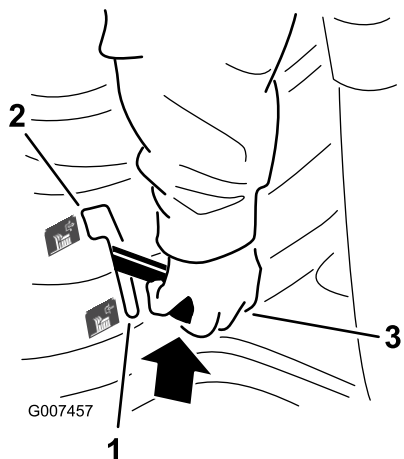

Figure 9
- Shift the blade control (PTO) lever to Disengage (Figure 9).